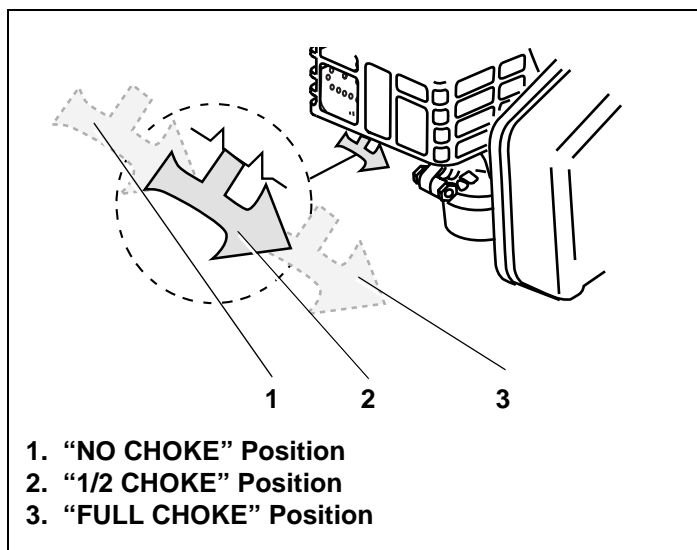

Figure 32. OH195EA/EP/XA/XP Choke Control Positions
*Some OH195EA/EP/XA/XP engines are equipped with a choke control lever located under the muffler. See Figure 32.*